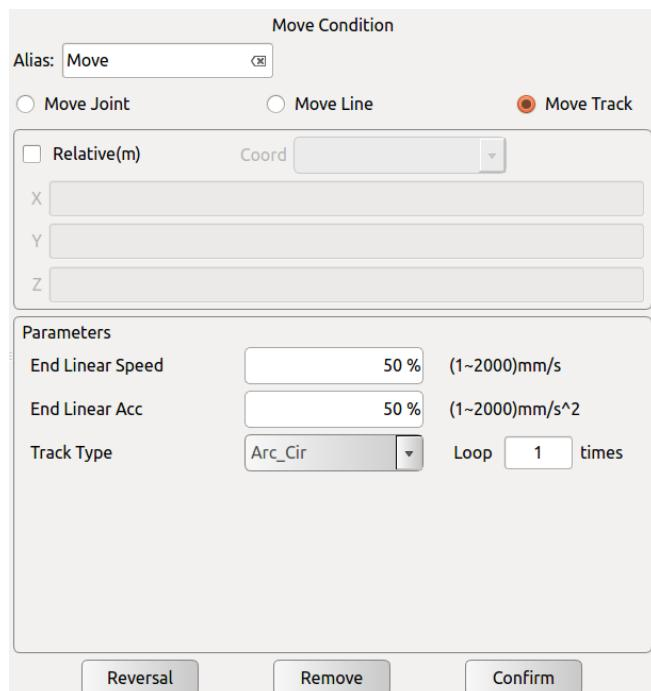

Figure 11-18 Move Track
- Click 【Input condition】 to input condition expression based on C language arithmetic rule, as shown in Figure 11.18(b). If the condition is evaluated to be true, the program inside this If are executed. If the expression evaluates to be false, the following Else If or Else statements will be executed.